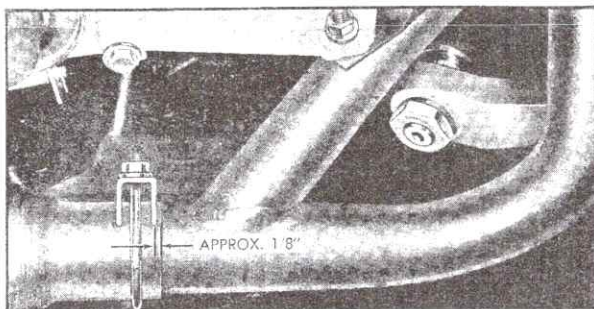

Fig. 8-6 Resonator Exhaust (Y) Pipe Clamp
2. Install resonator front clamp. See Fig. 8-6.
4. Position clamp on front end of resonator, as specified in Fig. 8-6, and tighten securely.
4. Position resonator front clamp at an angle of approximately 35° inboard to car so there is approximately 1/8 inch between saddle of clamp and edge of resonator pipe, Fig. 8-6. Tighten clamp to 50 foot-pounds.